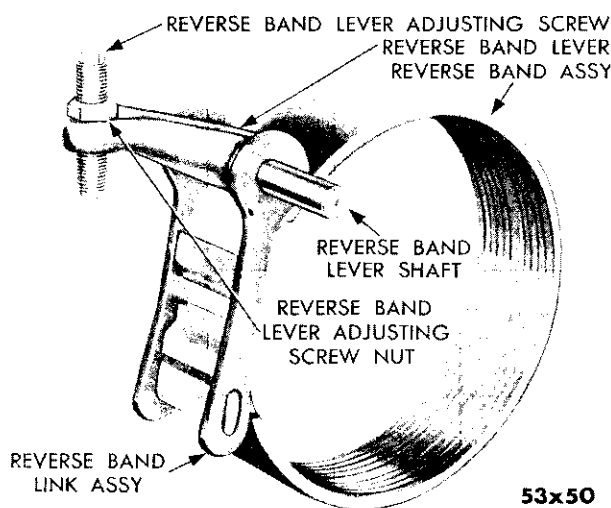

Fig. 38—Reverse Band Linkage
(1) Place the reverse band lever assembly in the reverse band link assembly and place in transmission case.
(2) Align the holes in the lever and link assemblies to shaft hole in the transmission case. Slide the reverse band lever shaft into position from rear of transmission case.
(3) Place reverse band assembly into transmission case by rotating ends of band through relieved area in transmission case (Fig. 20). Hook end of band in link assembly. Compress band sufficiently to install the strut in the slots of the band and lever assembly. (Figure 38 illustrates assembly of reverse band linkage after installation in transmission case.)